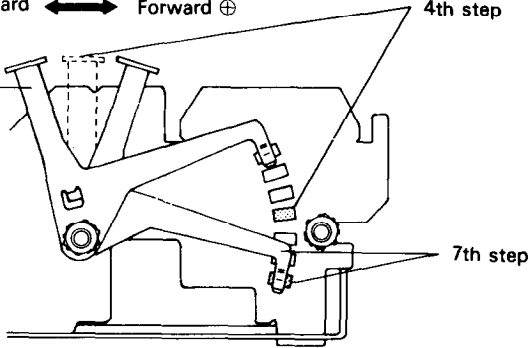

Fig. 46 Gap Adjustment
(See Fig. 46.)
- (3) Should printed characters become faint due to the use of the Printer for an extended period, move the head adjusting lever backward (in the  $\ominus$  direction) by one step. (See Fig. 46.)
- (4) When a set of carbon paper sheets is used, be sure that no characters are printed within the area two lines each above and below the perforation.